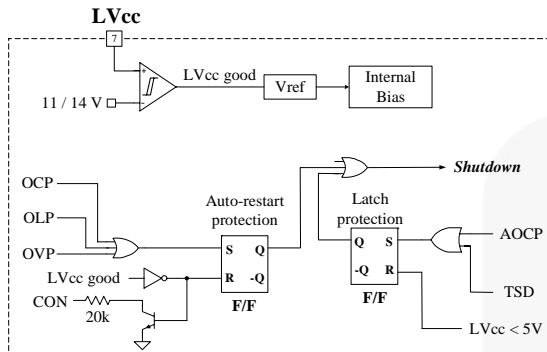

Figure 24. Protection Blocks
5. Protection Circuits: The FSFR-series has several self-protective functions, such as Overload Protection (OLP), Over-Current Protection (OCP), Abnormal Over-Current Protection (AOCP), Over-Voltage Protection (OVP), and Thermal Shutdown (TSD). OLP, OCP, and OVP are auto-restart mode protections, while AOCP and TSD are latch-mode protections, as shown in Figure 24.